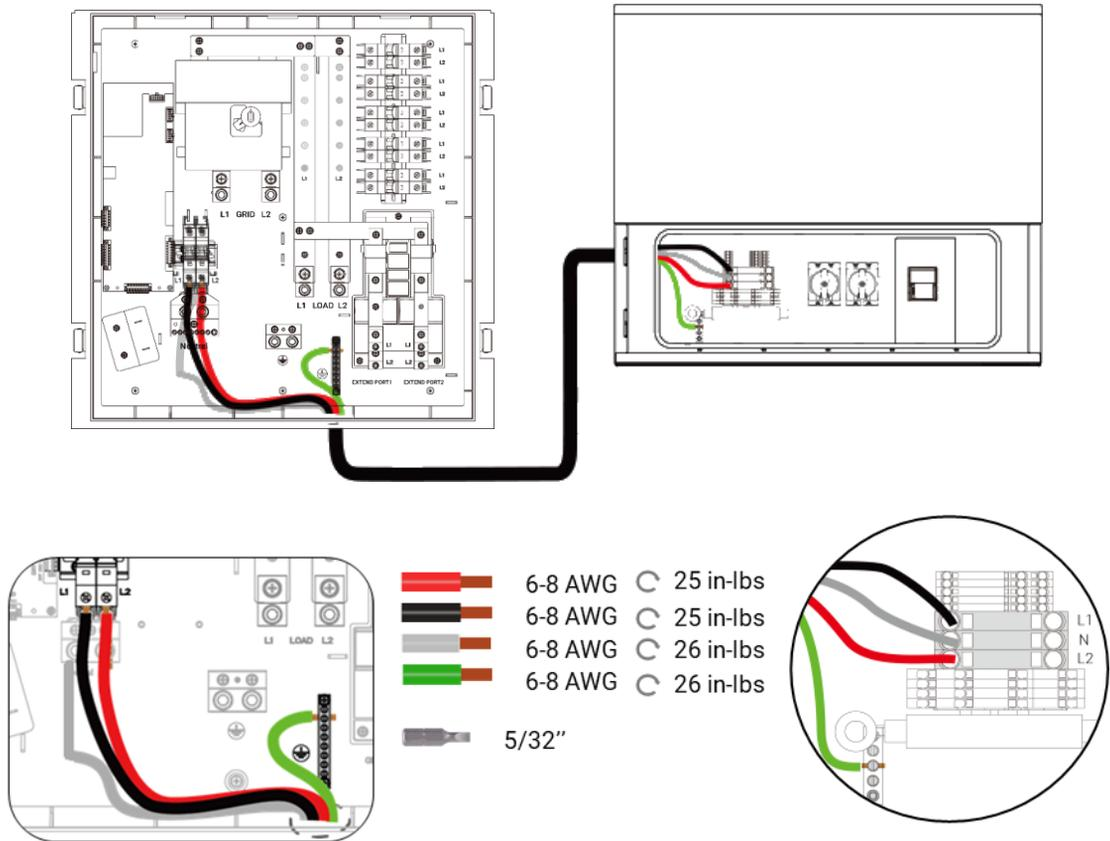

Figure 2. Smart Gateway to Hybrid AC Wiring
- b. Route the Hybrid cables through the conduit to connect it to the Smart Gateway hybrid breaker: (Ref. Figure 2)
- Refer to figure 2 for wiring the AC output L1, N, L2, and ground cable between the Hybrid Inverter and Smart Gateway breaker.